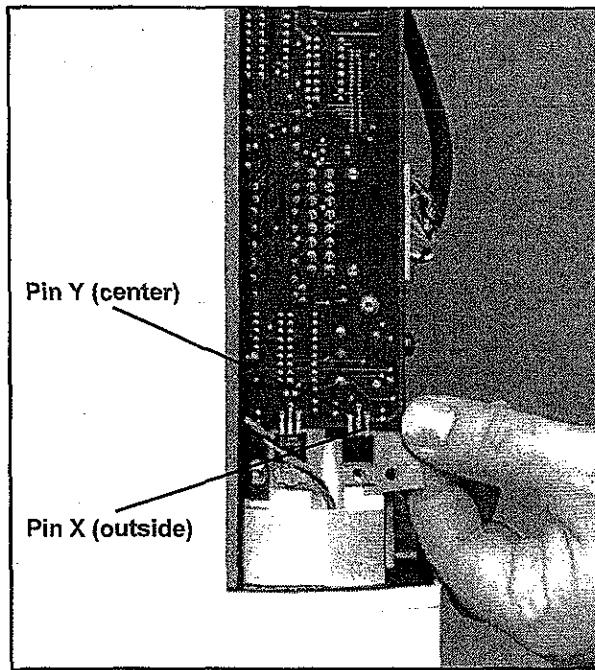

Figure 3-1: Voltage Regulator (Injector's Main PCB)
12. Locate the voltage regulator shown in Figure 3-1 and use a voltmeter to measure 15VDC to 19VDC across pins X and Y. Pin Y is Ground/Earth and is the center pin.